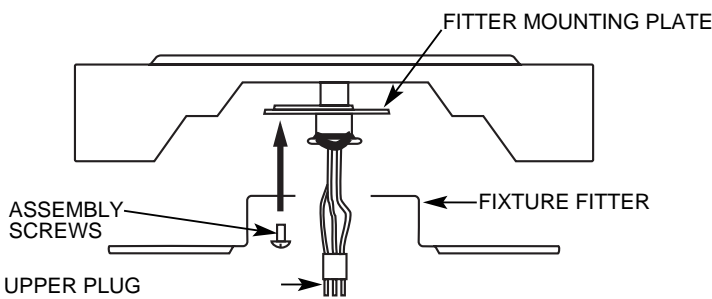

Figure 9A
Thread the upper plug connector from the motor through the large hole in the center of the fitter. See Figure 9A.
Assemble the fitter to the fitter mounting plate using (3) 3/8" long Phillips round head screws with lockwashers. See Figure 9A. Tighten the (3) screws securely.